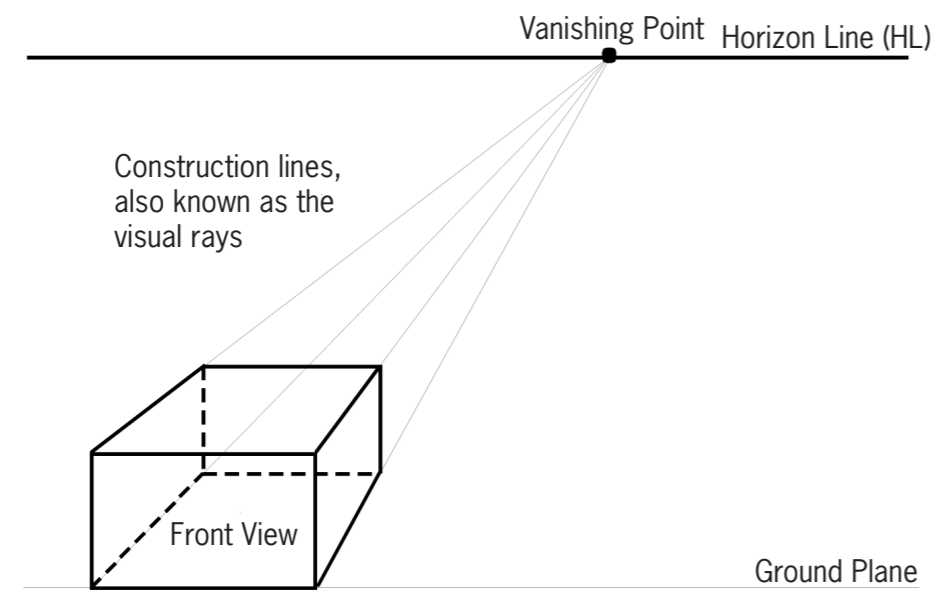

Figure 3
4. Make your own double vanishing point perspective drawing of a block. Draw in your solid lines, as indicated on the block drawing in Figure 3.